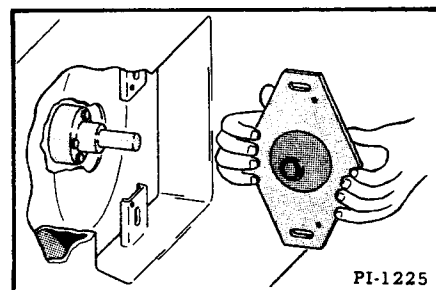

Fig. 150 Mounting Pump Aligning Tools
3. Mount the engine adapter to the engine crankshaft (Figure 150).
4. Mount the pump aligning hub to the pump mounting plate in place of the pump (Figure 150).